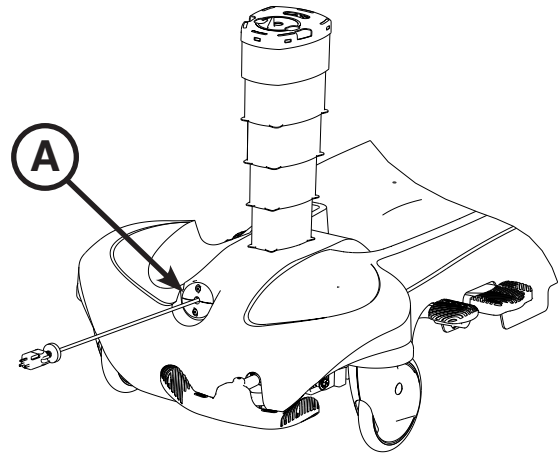

Figure 32: Optional Retractable Cord Reel
The retractable cord reel (A) stores the stretcher power cord during transport as shown in Figure 32.